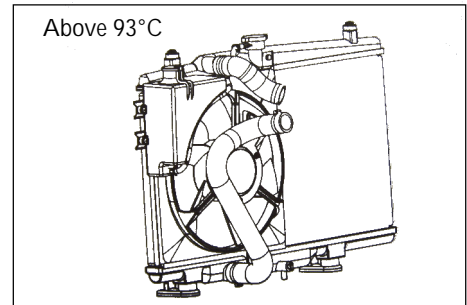

Figure 5-6
(2) At high temperature (more than 93° C), check the operation of the fan (see Figure 5-6).